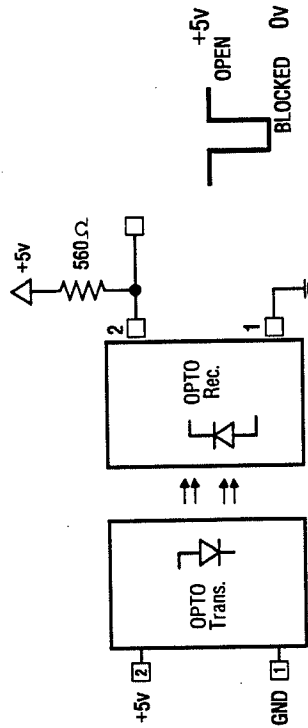

Fig. 3
3. Bench Test (See Fig. 3 Below):